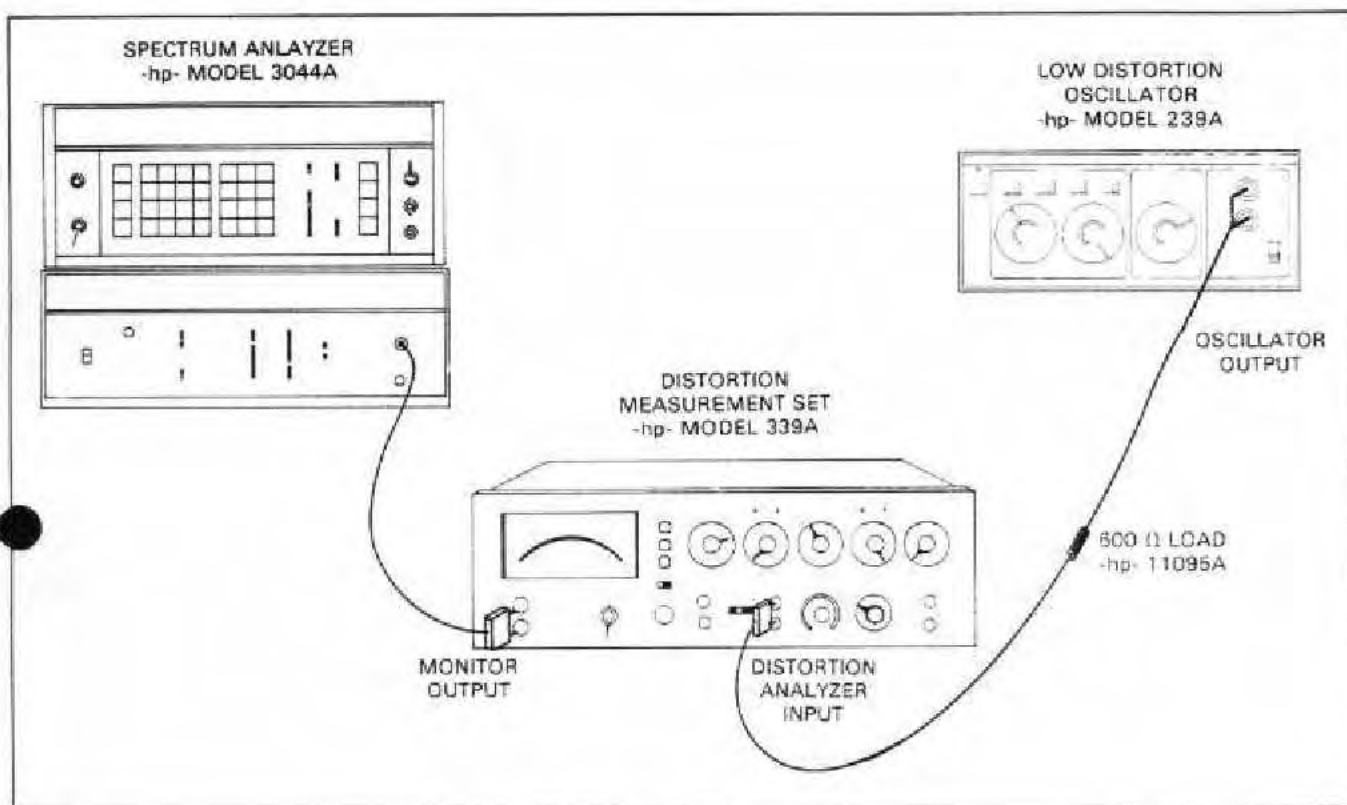

Figure 5-1. Notch Filter Null Adjustments.
- a. Connect the equipment as shown in Figure 5-1.